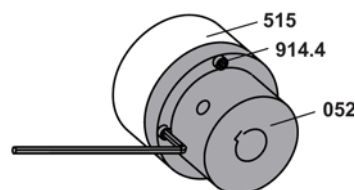

Fig. 4
5. Loosen the socket screws **914.4** between the coupling hub **052** and the outer rotor **515**, see Fig. 4.